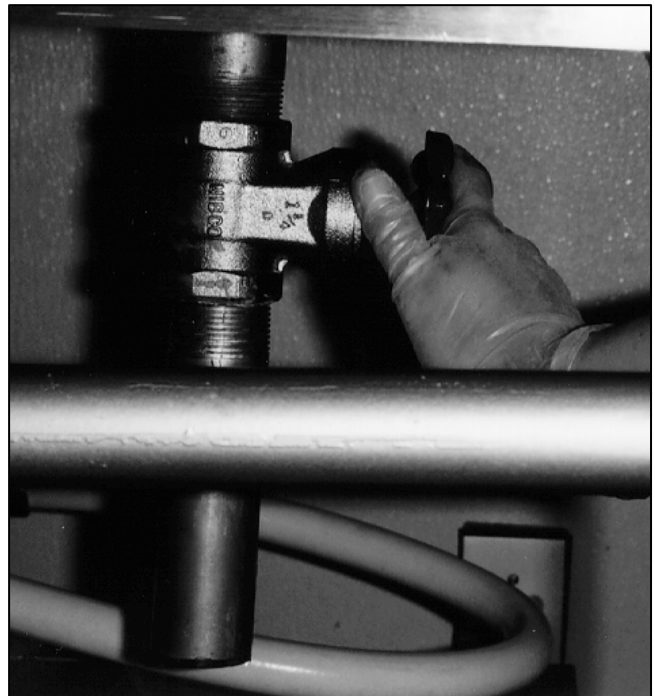

Figure 2-1. Opening the Drain Valve.
4. Drain the shortening from the fryer kettle into the EZ Melt. To do this, reach under the table and open the drain valve underneath the Donut Robot. Let the shortening drain into the EZ Melt. See Figure 2-1.
- c. Slowly open the drain valve and allow the shortening to drain out. (See Figure 2-1.)
4. Remove the shortening from the fryer kettle. To do this, place an EZ Melt or a large metal bucket underneath the drain valve. Slowly open the drain valve and allow the shortening to drain out. (See Figure 2-1.) If you are using a bucket and the bucket becomes full, close the drain valve. Continue draining into another bucket.